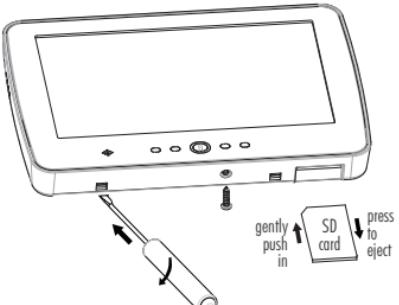

Figure 1 - Removing the backplate.
1. Remove the SD card before opening the touchscreen (see Figure 1).
- Figure 1 - Removing the backplate